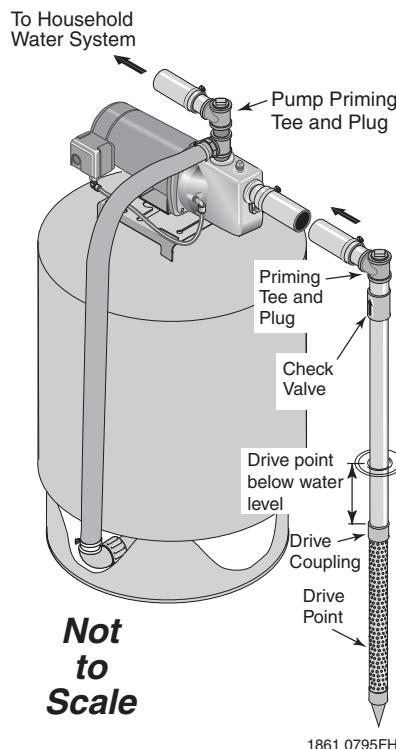

Figure 1: Driven Point Installation
## WELL POINT (DRIVEN POINT) INSTALLATION (FIGURE 1)
Step 3. Use the fewest possible fittings (especially elbows) when connecting the pipe from the well point to the pump suction port. The suction pipe should be at least as large as the suction port on the pump (include a check valve if your pump is not equipped with one – see Figure 1). Support the pipe so that there are no dips or sags in the pipe, so it doesn't strain the pump body, and so that it slopes slightly upward from the well to the pump (high spots can cause air pockets which can air lock the pump). Seal the suction pipe joints with PTFE pipe thread sealant tape. Joints must be air- and water-tight. *If the suction pipe can suck air, the pump cannot pull water from the well.* If one well point does not supply enough water, consider connecting two or three well points to one suction pipe.